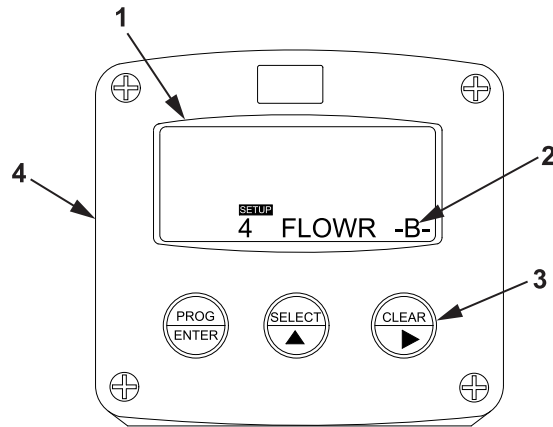

Figure 22. FLOWR B Display.
9. Verify that FLOWR B (Figure 22, Item 2) appears on the display screen (Figure 22, Item 1).
10. Verify default settings for function group FLOWR B (Figure 22, Item 2) as follows:
- a. Press the SELECT key (Figure 22, Item 3) on the tank volume meter monitor (Figure 22, Item 4).